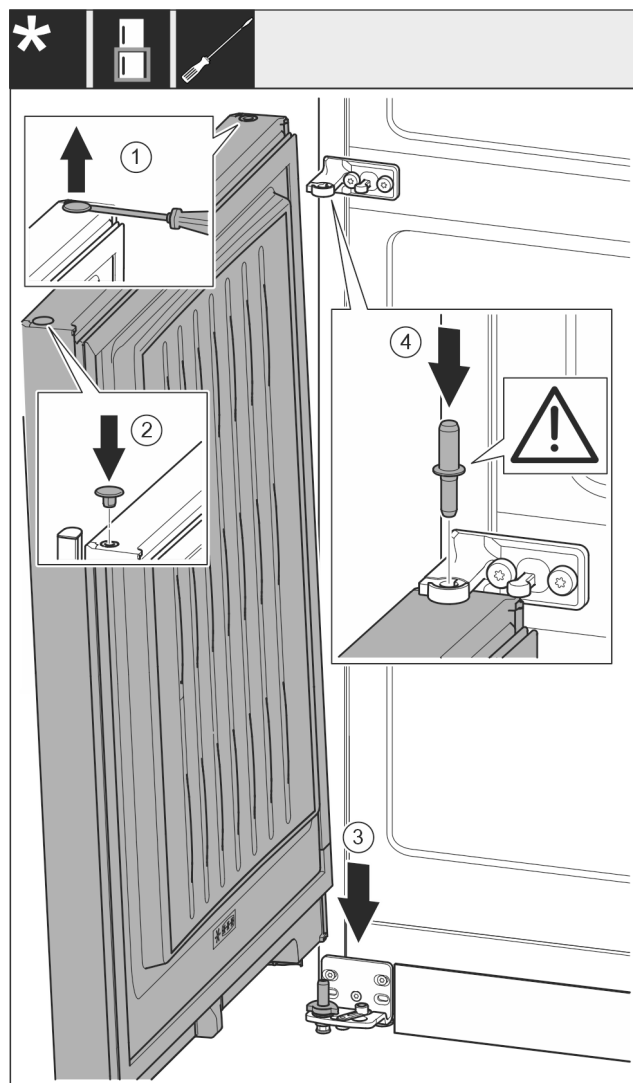

Fig. 23
- Use a slotted screwdriver to lift the plug Fig. 23 (1) carefully and pull it out.
- Re-insert the plug Fig. 23 (2) on the other door side.
- Lower the door Fig. 23 (3) onto the bottom bearing bolt.
- Insert the centre bearing bolt Fig. 23 (4) through the centre bearing block in the lower door. Ensure that the latching cam is pointing towards the rear.